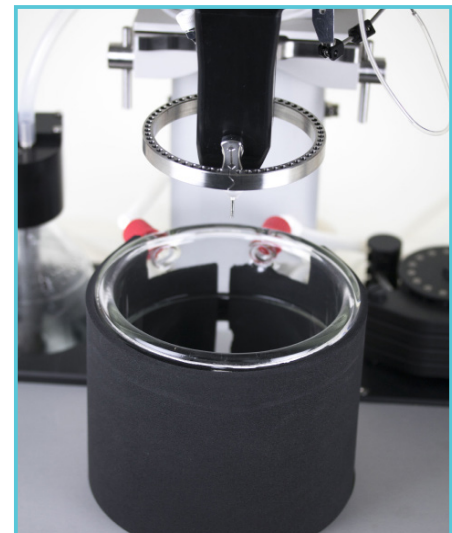

*Fig.35.: Overflow outlet of the Water Jacketed Buffer Reservoir is marked with the blue circle.*
- Fill the Water Jacketed Buffer Reservoir with perfusion buffer up to the overflow outlet as indicated in fig.35.